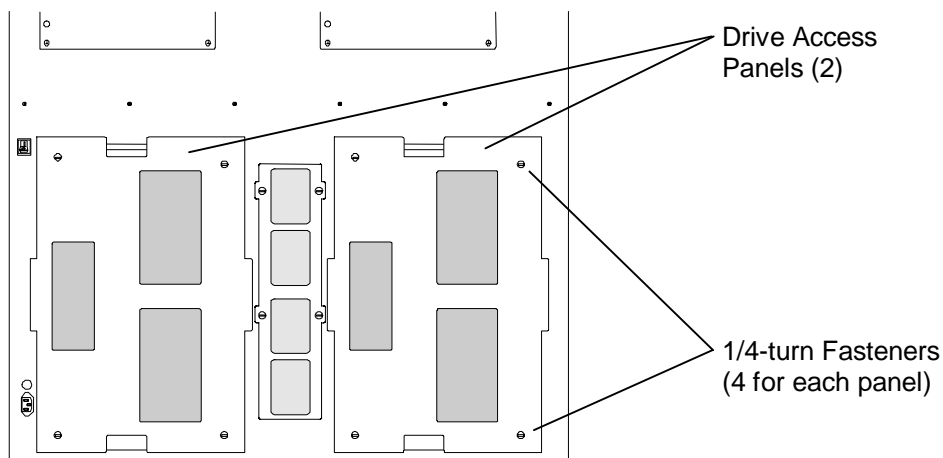

Figure 7-59 Access Panels on rear of Dual Bay TLS
4. Use a flat bladed screwdriver to loosen all four of the quarter-turn fasteners on the access cover on the left side as seen from the rear (Figure 7-59). Carefully remove the access cover.
2. Use a flat bladed screwdriver to loosen all four of the quarter-turn fasteners on the access cover on the right side as seen from the rear (Figure 7-59). Carefully remove the access cover.